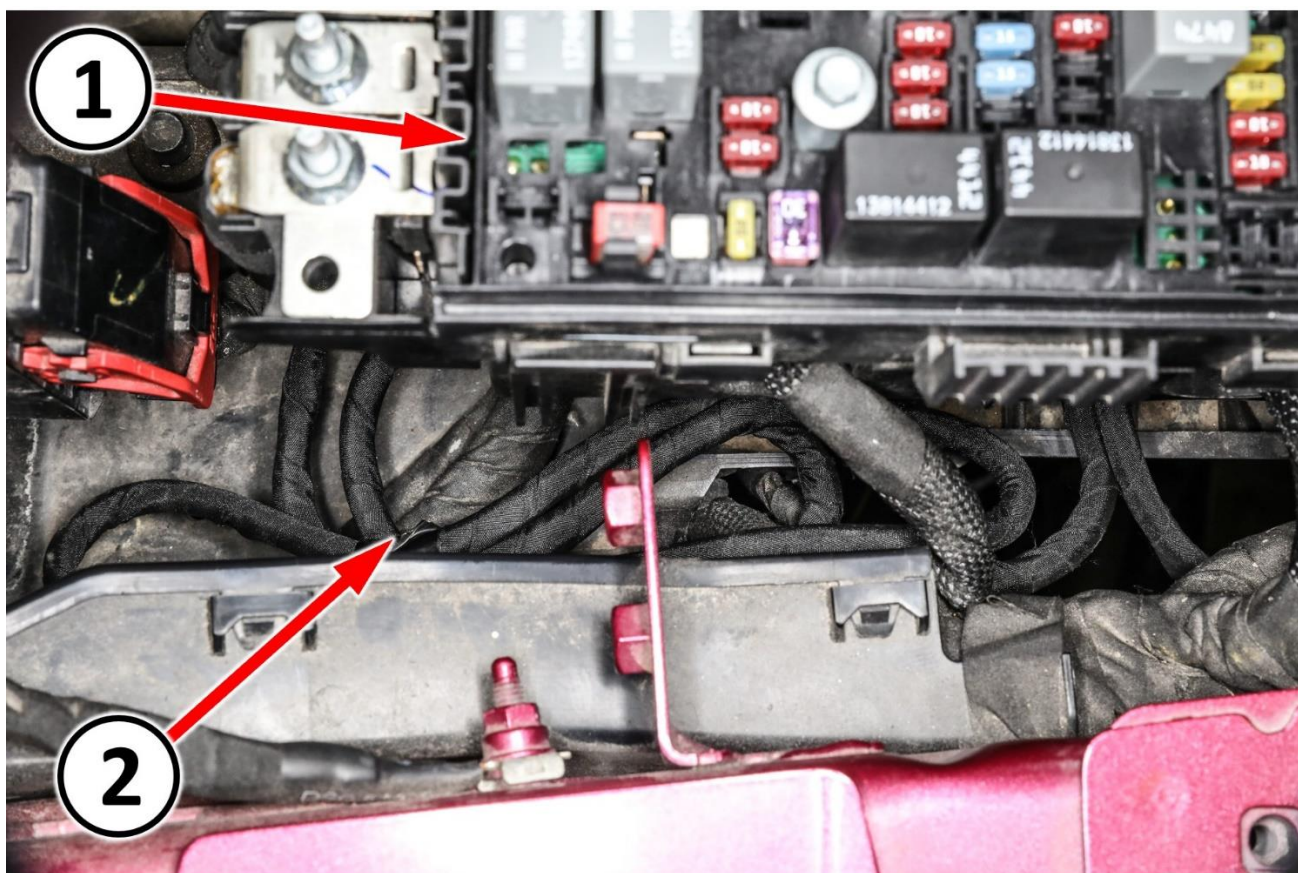

Figure B21 – Power Steering Pump Wire Harness Overlay Routing
49. Loop and secure with cable tie or black electrical any excess overlay jumper wire length outboard of PDC (Figure B21).